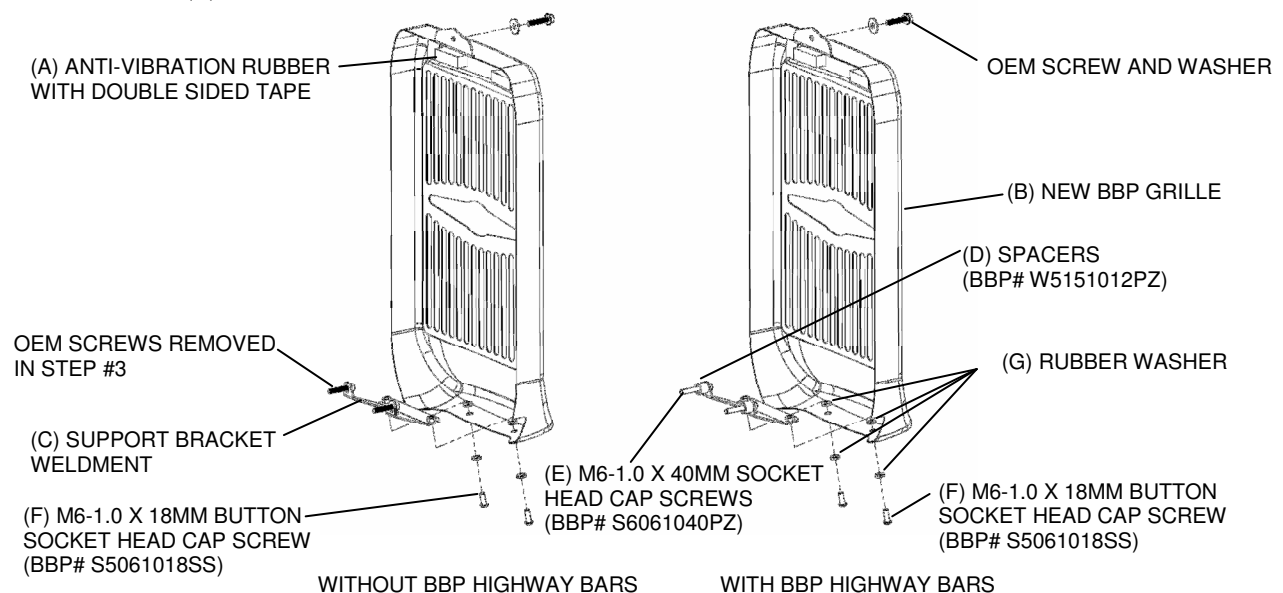

Figure 1 - PLACEMENT OF MOUNTING SCREWS AND WASHERS
4. INSTALL THE ANTI-VIBRATION RUBBER WITH DOUBLE SIDED TAPE (A) ON BACK OF NEW BBP RADIATOR GRILLE (B) LINING UP CORRECTLY WITH THE BIKE, AS SHOWN IN FIGURE 1 BELOW. EACH ABOUT 1 INCH FROM THE EDGE AND A 1/2 INCH ABOVE THE GRILLE.
6. IF INSTALLING OVER BBP HIGHWAY BARS, THE SUPPORT BRACKET WELDMENT (C) SHOULD BE INSTALLED WITH THE TWO SPACERS (D) AND THE TWO M6-1.0 X 40MM SOCKET HEAD CAP SCREWS (E), AS SHOWN BELOW IN FIGURE 1.
7. TEMPORARILY INSTALL THE NEW BBP RADIATOR GRILLE (B) (OVER BBP HIGHWAY BARS, IF MOUNTING GRILLE OVER BBP HIGHWAY BARS) BY ALIGNING THE TOP MOUNTING HOLE WITH THE MOUNTING HOLE ON THE TOP OF THE RADIATOR, AND THE TWO BOTTOM MOUNTING HOLES WITH THE SUPPORT BRACKET MOUNTING HOLES. REMOVE THE NEW BBP RADIATOR GRILLE (B) AND TIGHTEN THE SCREWS THAT ARE HOLDING THE SUPPORT BRACKET WELDMENT (C) FROM STEP #5 OR STEP #6.
8. INSTALL THE NEW BBP RADIATOR GRILLE, AS SHOWN BELOW IN FIGURE 1. THEN USING 10MM WRENCH, INSTALL TOP OEM M6-1.0 X 30MM LONG HEX HEAD SCREW AND WASHER, (2) M6-1.0 X 18MM LONG BUTTON SOCKET HEAD CAP SCREWS (F), AND (4) RUBBER WASHERS (G), THEN TIGHTEN ALL THREE SCREWS.